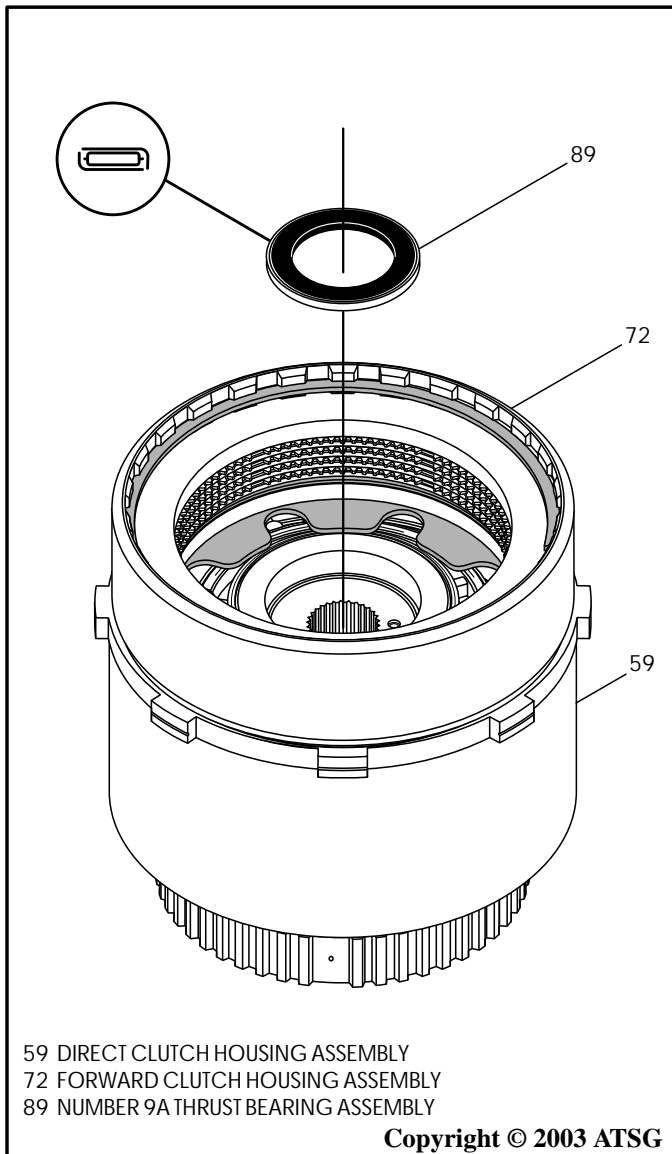

Figure 124
4. Install the number 9A thrust bearing into the forward clutch housing in the direction shown in Figure 124, with black side facing up.